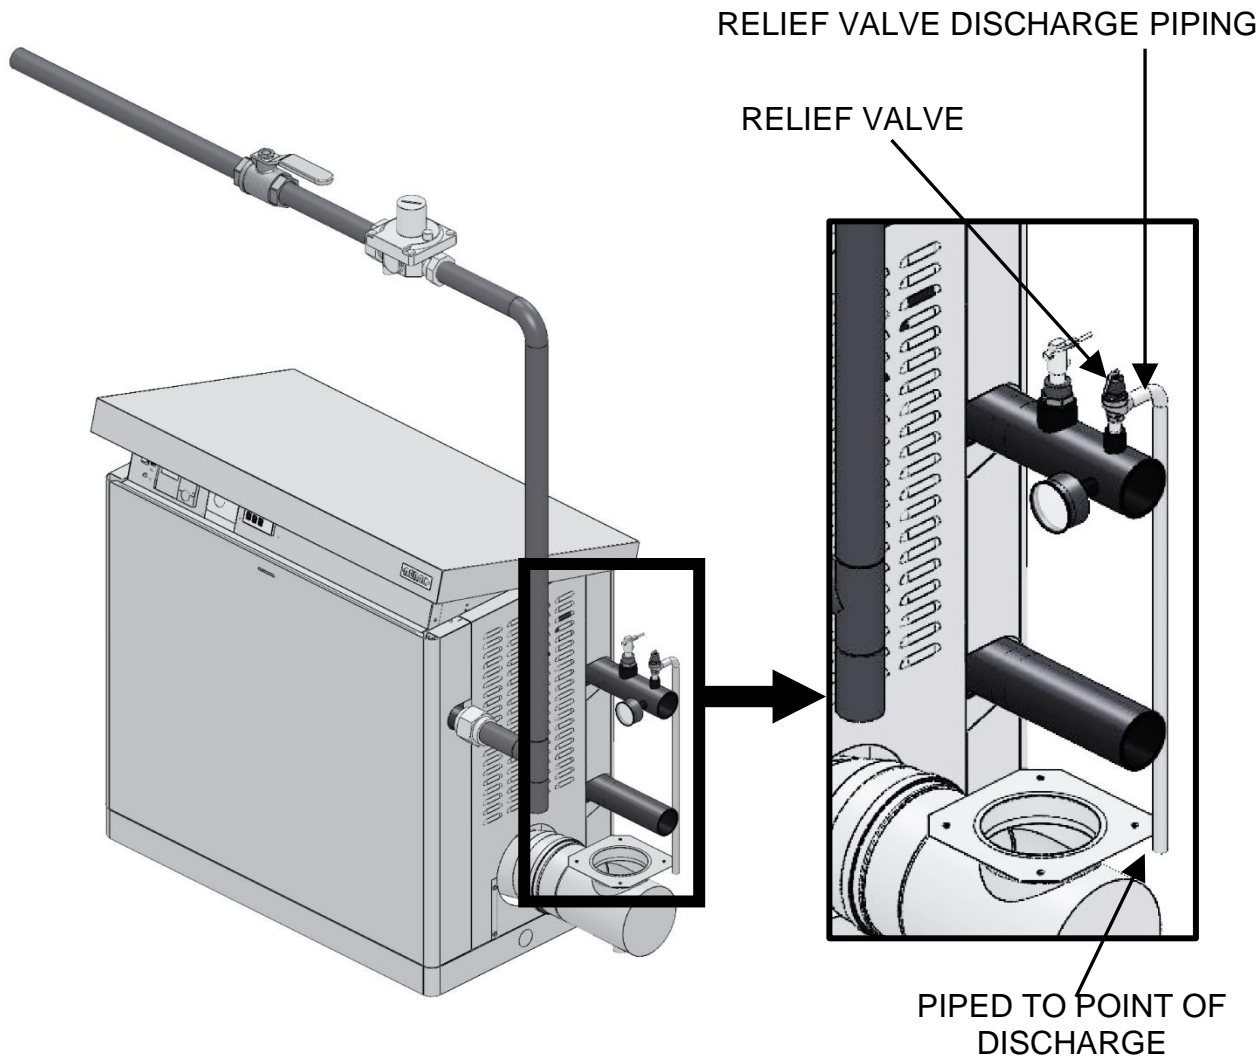

Figure 1: Relief Valve Point of Discharge Example
- The discharge pipe must be installed so that there will be no danger of scalding to the boiler attendants. See Figure 1, below, for a discharge pipe example on the Modulux boiler.